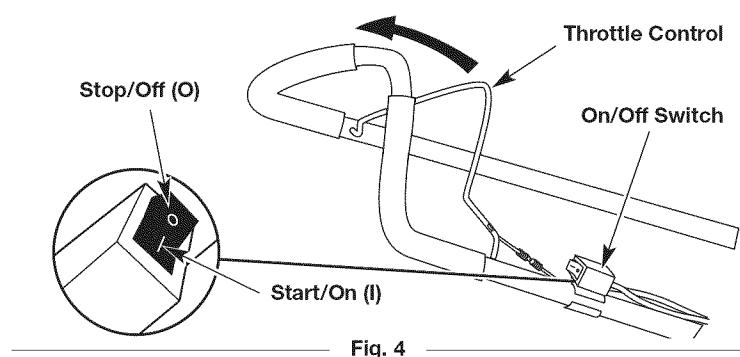

Fig. 4
- NOTE:** There is no need to turn the unit on. The On/Off switch is in the ON (I) position at all times (Fig. 4).
6. **DO NOT** squeeze the throttle control (Fig. 4). Pull the starter rope with a controlled and steady motion until the unit starts.
2. Press and hold the On/Off switch in the OFF (O) position until the engine comes to a complete stop (Fig. 4).